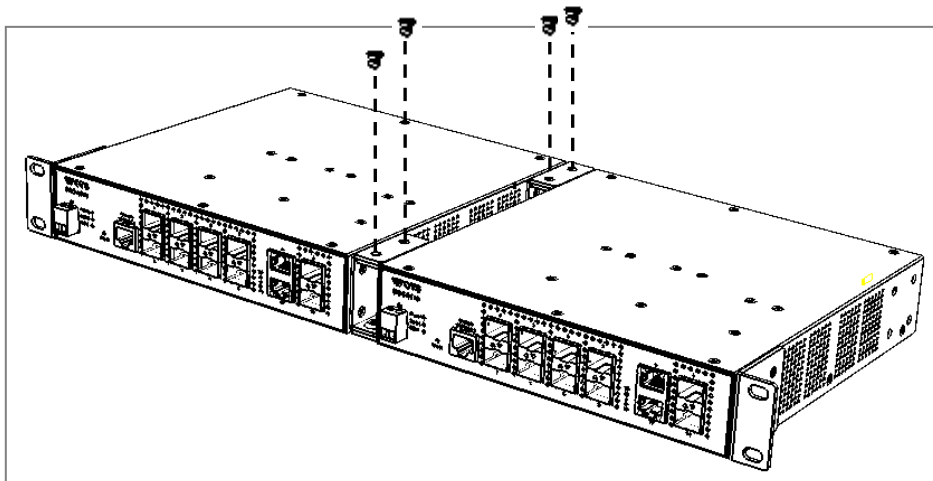

Figure 2-4. Screw the locked switches for two-switch mounting
Step 4. Insert the screws provided in the FOS combine kit through the holes into each middle mount. (See Figure 2-4)